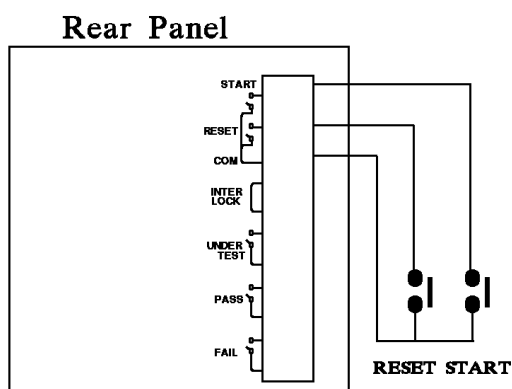
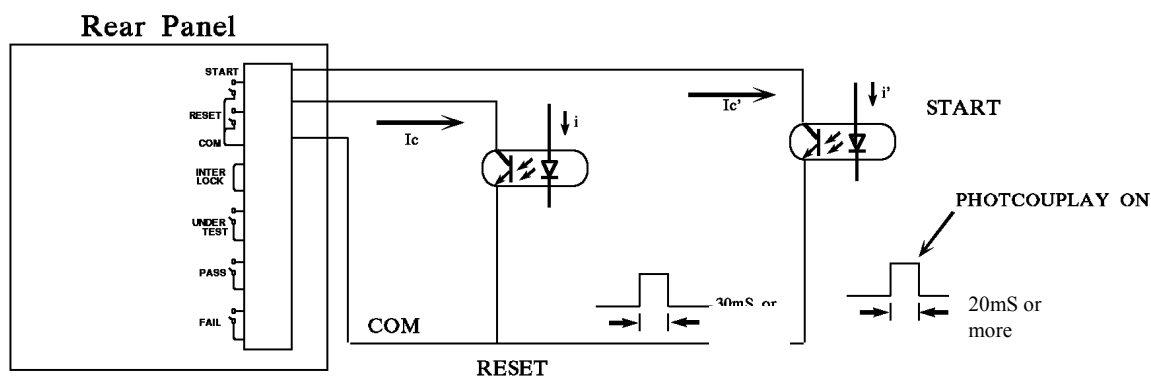

Figure 1
Figure 3
- For single control of START and RESET signals follow Figure 1 listed below to connect them to the REMOTE position on the system back panel.
- Either the relay switch control in Figure 1 or the coupler control in Figure 3 uses the contact of components for control action. It can prevent the error operation from interference effectively. Though the system has a lot of precautions, you would still need to watch out the interference caused by the measurement system settings.